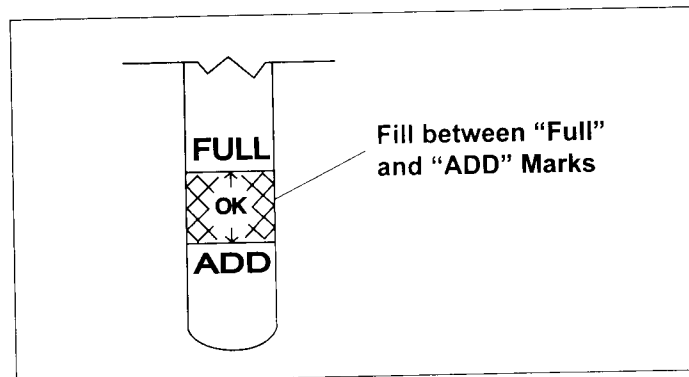

Figure 7. Engine Oil Level
- Keep oil level between "FULL" and "ADD" marks on dipstick. See Figure 7.
4. Unscrew and remove oil fill cap or oil fill plug from oil filler tube. Note oil level. If oil reading on dipstick is below "ADD" mark, slowly add oil to reach "FULL" level. See Figure 7.